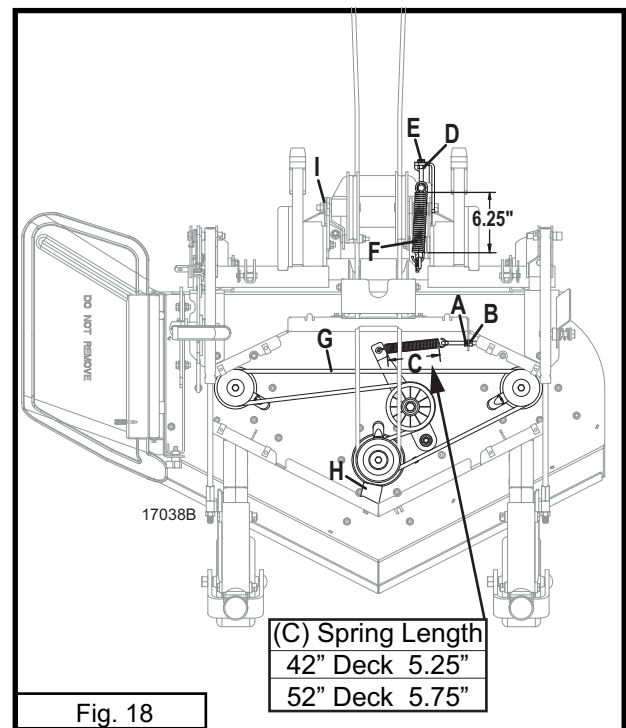

Fig. 18
(Refer to Fig. 18)
- Loosen the lock nut (A) and adjust the draw nut (B) to change belt tension.
- Increase belt tension by turning the draw nut (B) clockwise and decrease belt tension by turning the draw nut counter-clockwise.
- The idler spring (C) body length should measure approximately 5.25 inches on a 42" deck and 5.75 inches on a 52" deck for proper belt tension (see Fig 18 chart).
- Tighten the lock nut (A) when the proper belt tension is achieved.
- To adjust mule belt tension loosen the lock nut (D) and adjust the .375 inch bolt (E) to change belt tension.
- Increase belt tension by turning the bolt (E) clockwise and decrease belt tension by turning the bolt counter-clockwise.
- The idler spring (F) body length should measure approximately 6.25 inches, at the highest cut setting, for proper belt tension. The fixed idler can be adjusted downward in the slot (I) to maintain proper belt tension.
- Tighten the lock nut (D) when the proper belt tension is achieved.
- Loosen the lock nut (A) and back off (counterclockwise) the draw nut (B) until tension is released from the old belt (G) and it can be lifted off the deck sheaves.
- Install the new belt following Fig. 18 for proper belt routing.
- Fold deck back down. Reposition front spindle belt retainer (H) and tighten bolt.